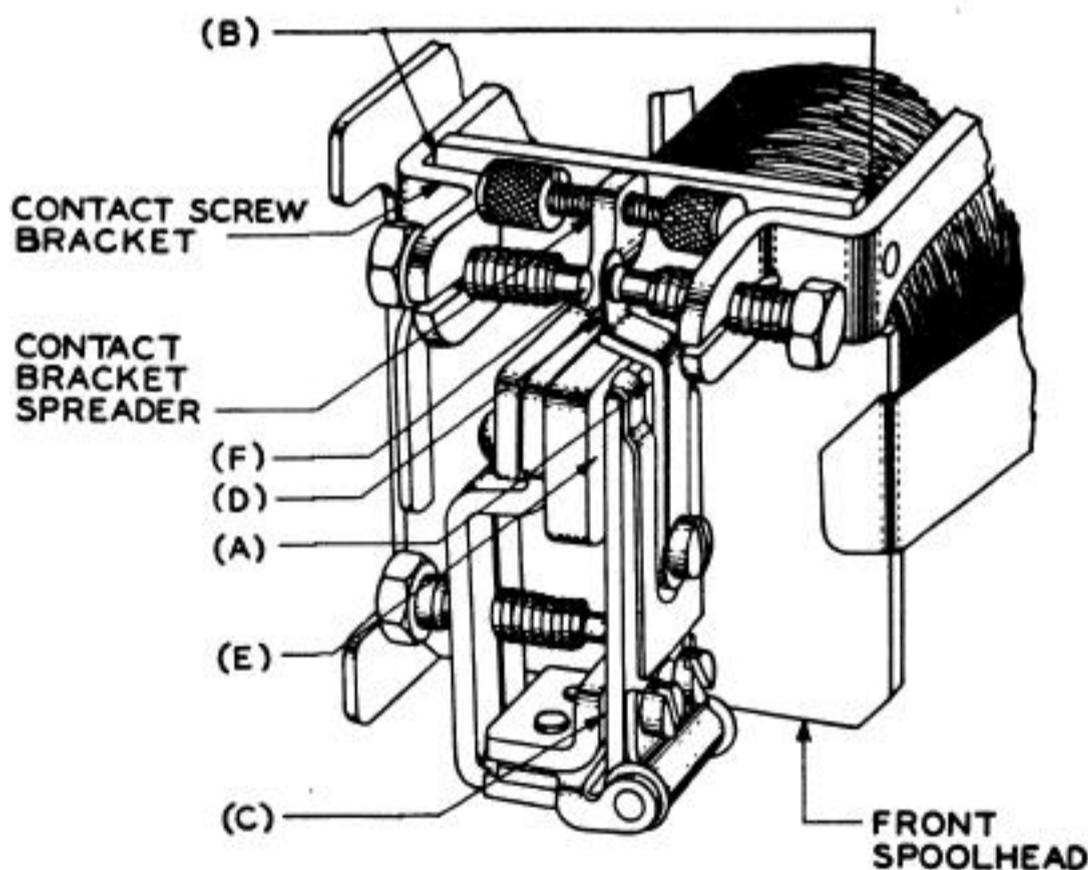

Fig. 1 — Relay Equipped With Contact Bracket Spreader
1.01 **Clearance Between Contact Spring and Retractable Spring:** Fig. 1(A) — Contact spring and its support shall not touch sides of slot in retractile spring in operated or unoperated position of armature. ←
- (1) Studs on brackets fall within slots in spoolhead.
- (b) Relays with contact bracket spreader, Fig. 1(B):
- (1) Min 0.006 inch between bracket and spoolhead.
- (2) 1/64 inch between top of spreader and cover, or insulate cover above spreader with single layer of scotch cellulose tape, if cover is not already so insulated. ↵
- 1.05 **Base Cap (Readjust Only):** Fig. 1(C) — Min 0.009 inch, Max 0.011 inch. No. 74D gauge. ↵
- (a) Fig. 1(D): Min 3, Max 7 grams against spring support. No. 70F gauge. For "test" the requirement is met if contact spring rests on support at least within 1/16 inch of extreme end of support. ↵
- (1) Contact spring rests on top edge of retractile spring or armature.
- (2) If contact spring rests on retractile spring, the top edge of retractile spring underneath contact spring shall rest on armature.
- 1.07 **Armature Travel:** Fig. 1(E) — Min 0.009 inch, Max 0.011 inch. No. 74D gauge.
- 1.08 **Contact Separation:** Fig. 1(F) — Min 0.003 inch, Max 0.005 inch. No. 74D gauge.